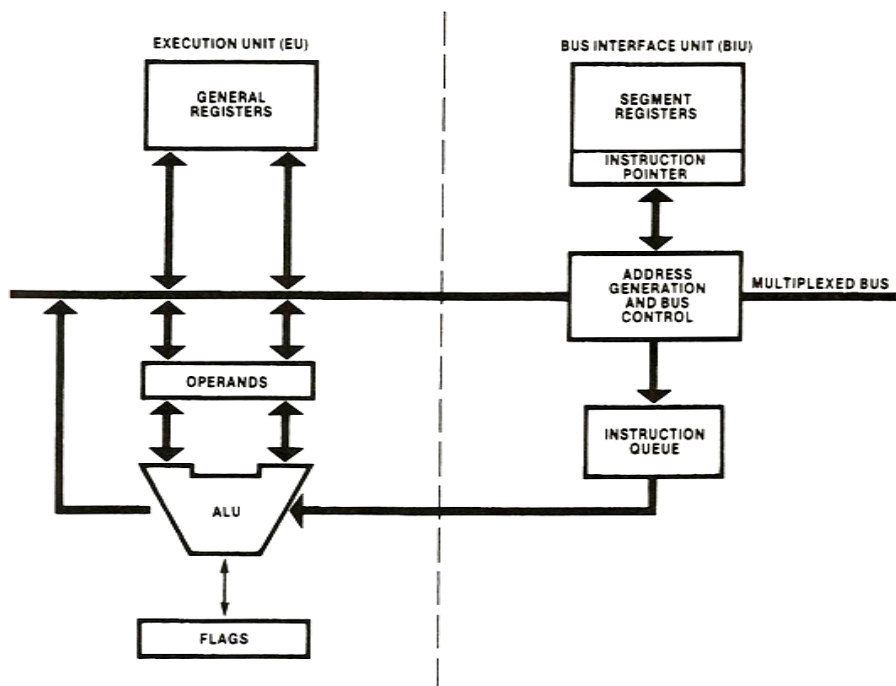

Fig 1: Execution and bus interface units
The internal architecture of the 8086 contains two processing units: the *bus interface unit (BIU)* and the *execution unit (EU)*. Each unit has dedicated functions and both operate at the same time. This parallel processing makes the fetch and execution of instructions independent operations. See Fig. 1